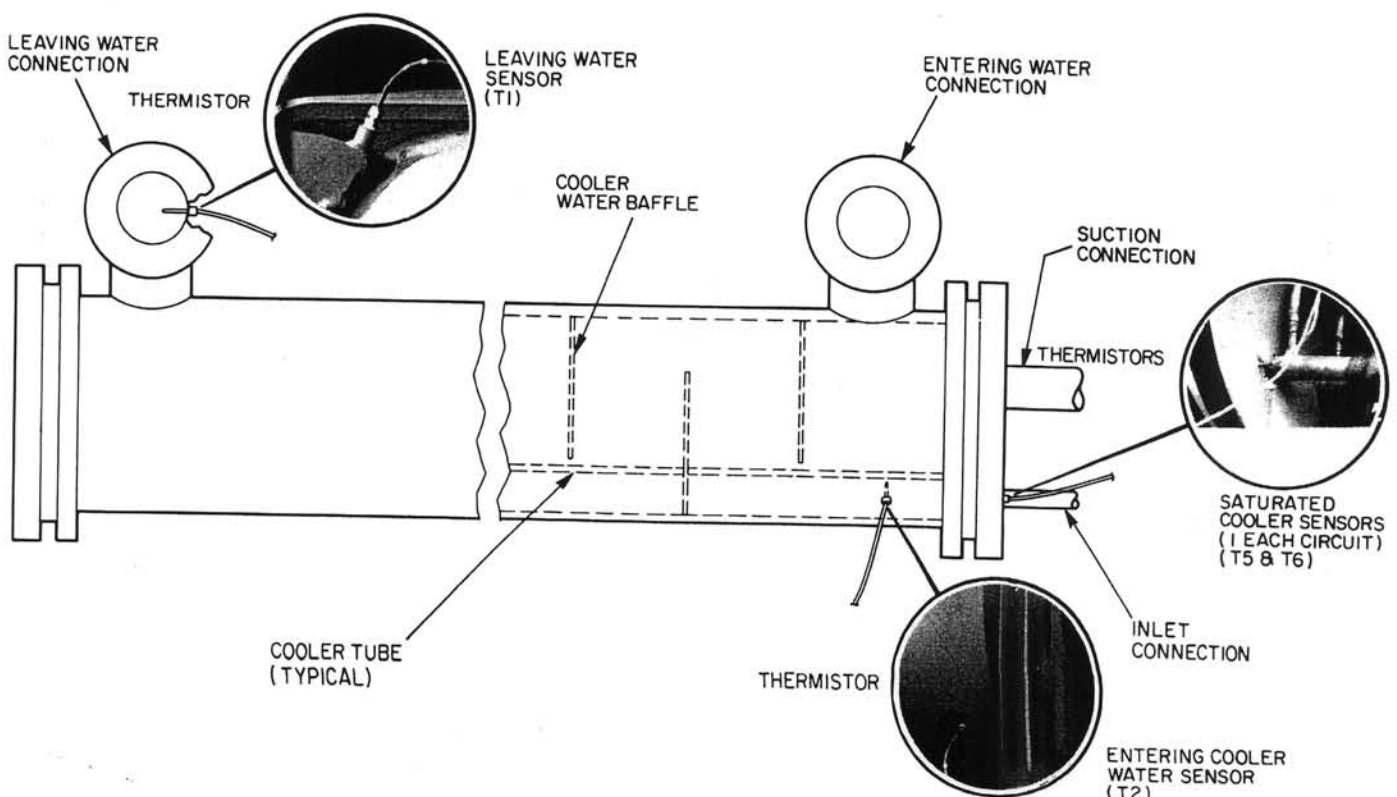

Fig. 12 – Cooler Sensor Locations
3. Disconnect conduits to cooler heater cables and remove all thermistors from cooler. (See fig. 12).